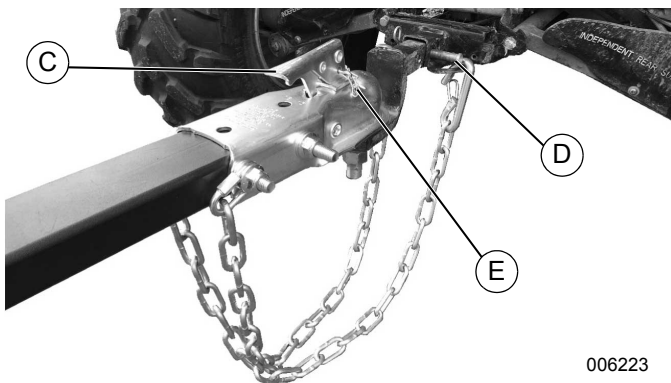

Figure 2-16. Hitch Attached to Tow Vehicle
4. See Figure 2-16. Close latch assembly (C) to lock it onto the tow ball.